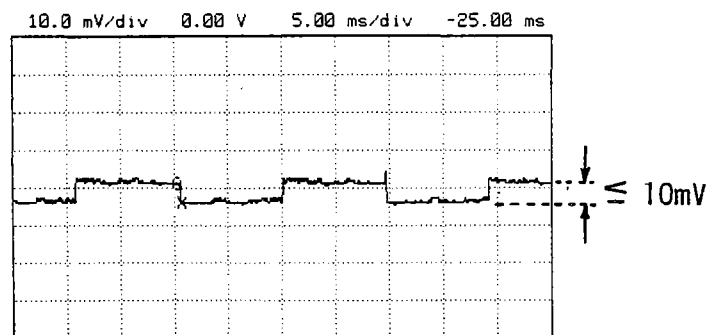

Figure 3-131. DC Offset Adjustment Example
9. Adjust A46R36 until the peak to peak voltage displayed by the Oscilloscope is < 10 mV as shown in Figure 3-131.
11. Adjust A45R36 until the peak to peak voltage displayed by the Oscilloscope is < 10 mV as shown in Figure 3-131.
12. Reconnect coaxial cables (B) to A45J2 and A46J2.